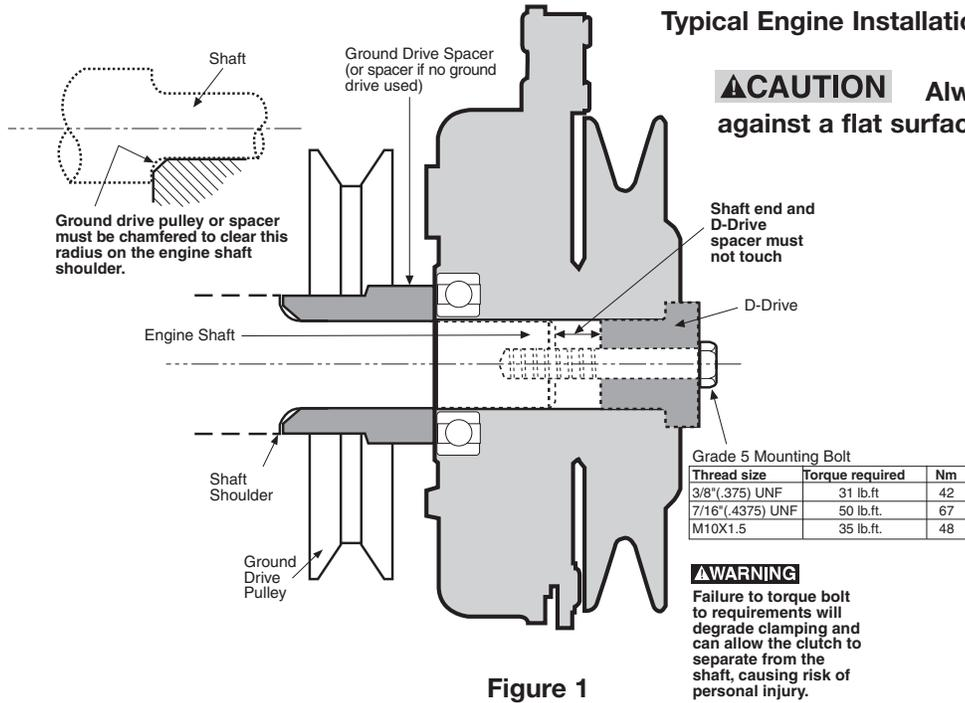

Figure 1
Ground drive pulley or spacer (if used) must be chamfered to clear the radius on the engine shaft shoulder. Ground drive or spacer surfaces must be perpendicular to the bore, parallel to each other and to the mounting surface within .003". See figure 1.
6. Install mounting bolt and retaining washer and torque to spec. Grade 5 or Grade 8 bolt only. Minimum torque. See figure 1.